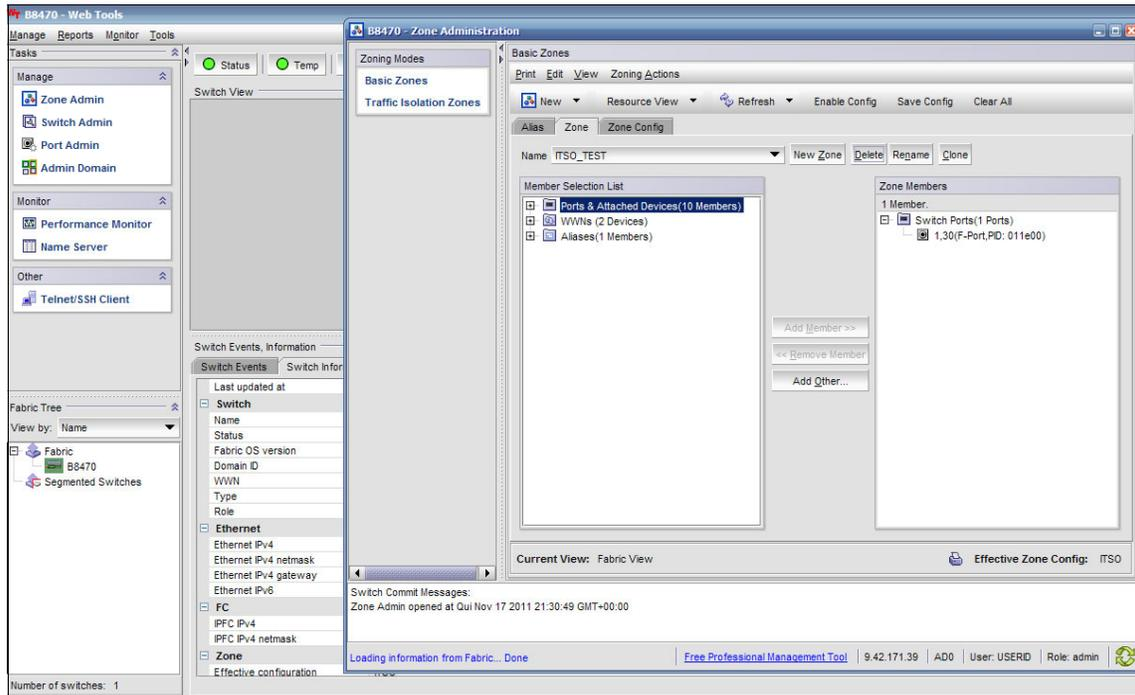

Figure 10-137 Zone page in the Zone Administration window
- a. On the **Zone** tab (Figure 10-137), click **New Zone**.